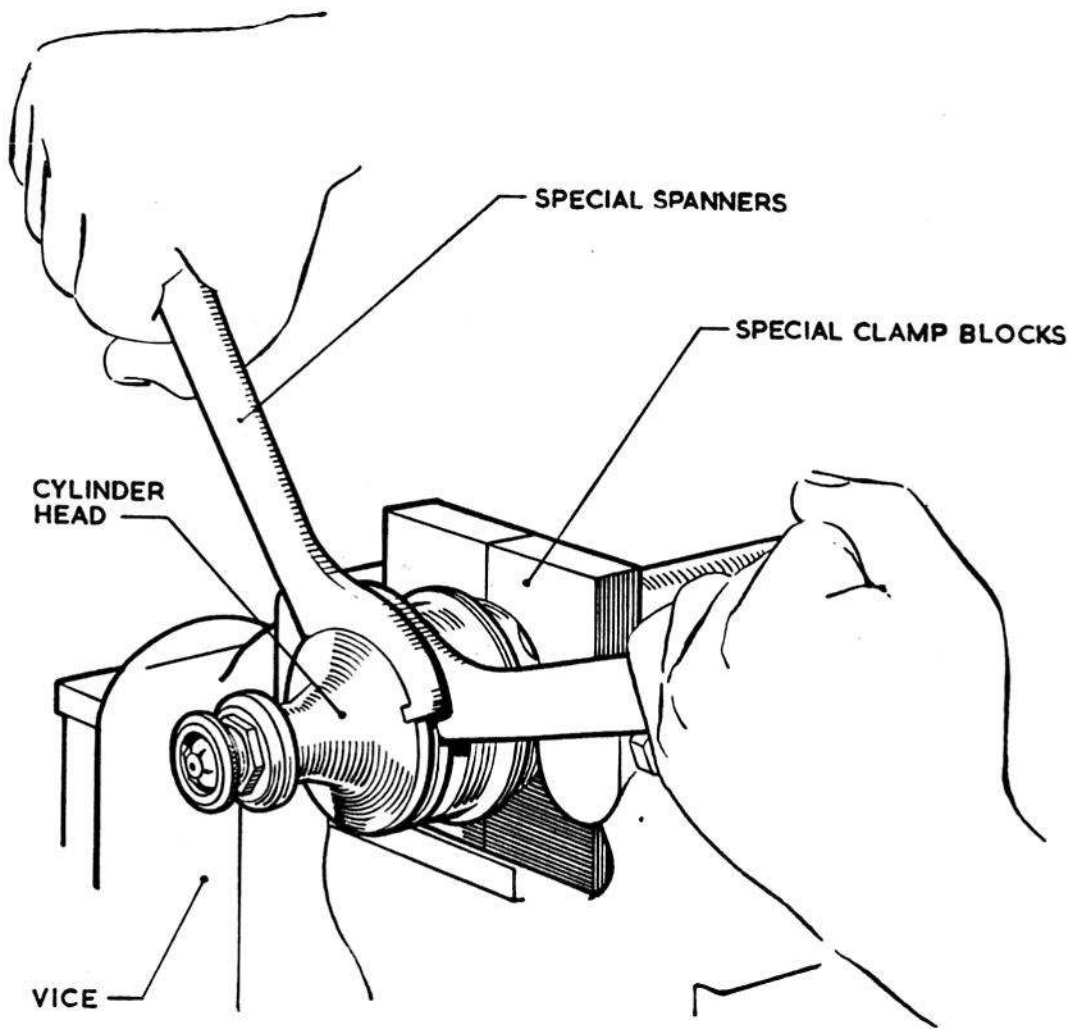

Fig. 6. Removing cylinder head
7. (1) Grip the cylinder tube in the special clamp blocks (fig. 6), remove the locking wire and unscrew the cylinder head, using the special C-spanners provided. Do not remove the end cap from the cylinder tube.